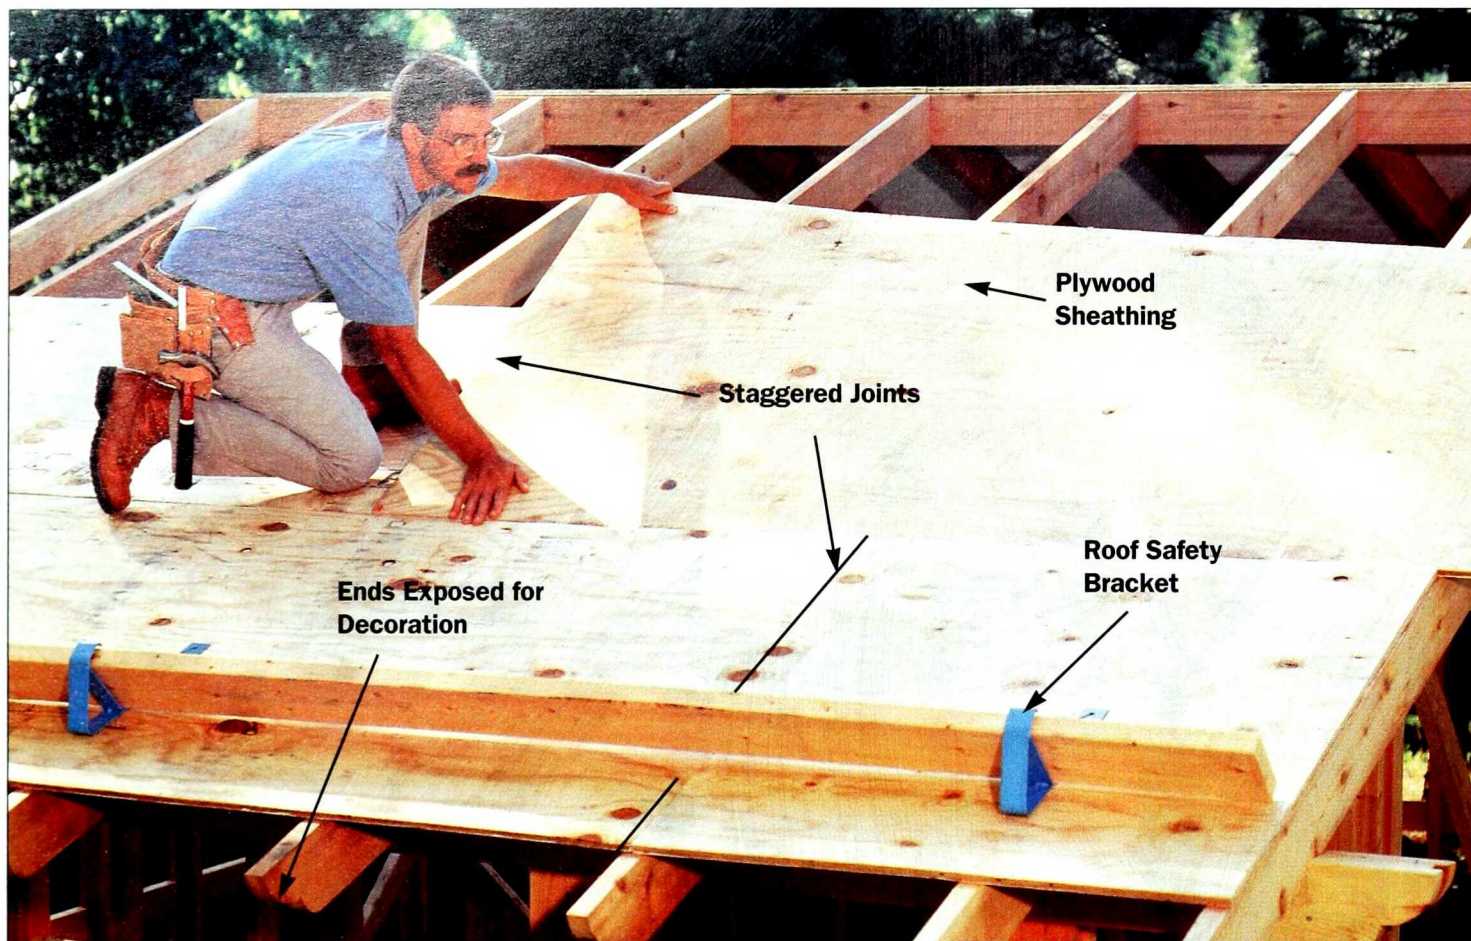

Figure 13: Install plywood roof sheathing, trimming excess plywood after nailing. Stagger end joints and nail securely with 8d nails.
- Stagger the end joints of your plywood (Figure 13) as you install the sheets, and nail the plywood firmly to each rafter with 8d nails, spaced 6 inches apart.